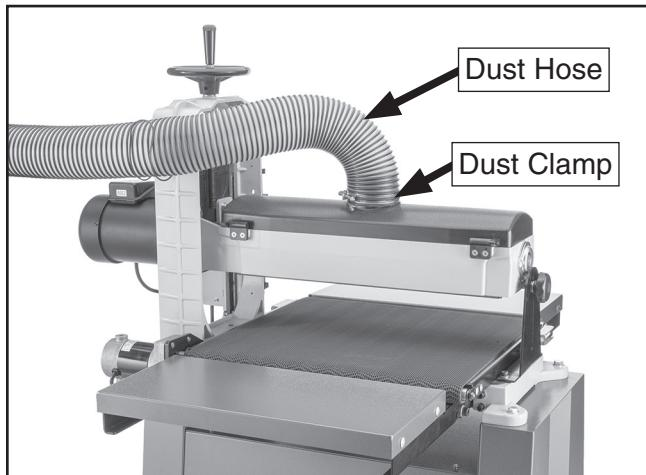

Figure 29. Dust hose attached to dust port.
1. Fit 4" dust hose over dust port, as shown in **Figure 29**, and secure in place with hose clamp.